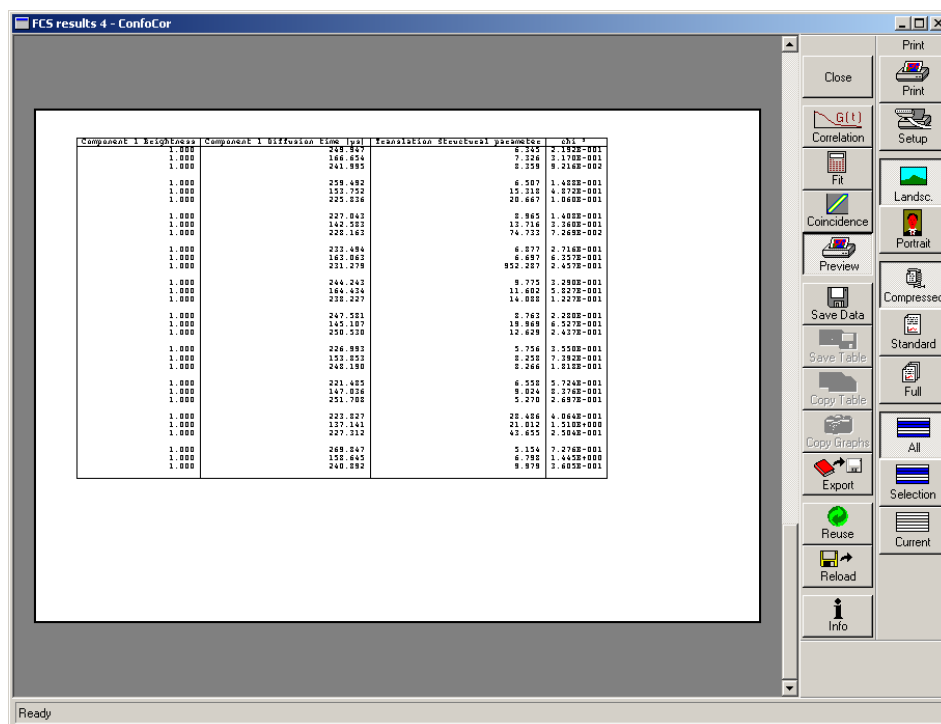

Fig. 4-125 Preview / Print window
- A print preview and the additional **Print** subordinate toolbar will appear on the screen (Fig. 4-125).